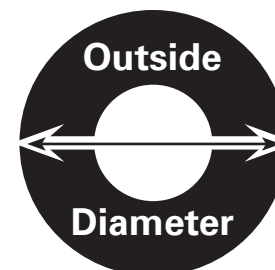

Figure 34 - Measure Outside Tire Diameter
**2.** Measure the outside tire diameter, see figure 34, and enter this diameter manually using the keypad.